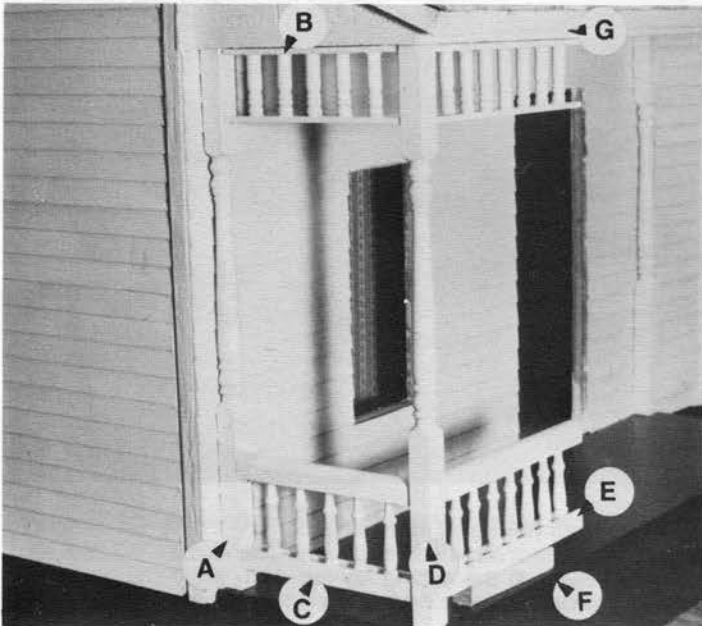

Fig. 16
**(FIGURE 16:)** Here is the suggested routine for assembling the porch elements. First, each item is completely painted.